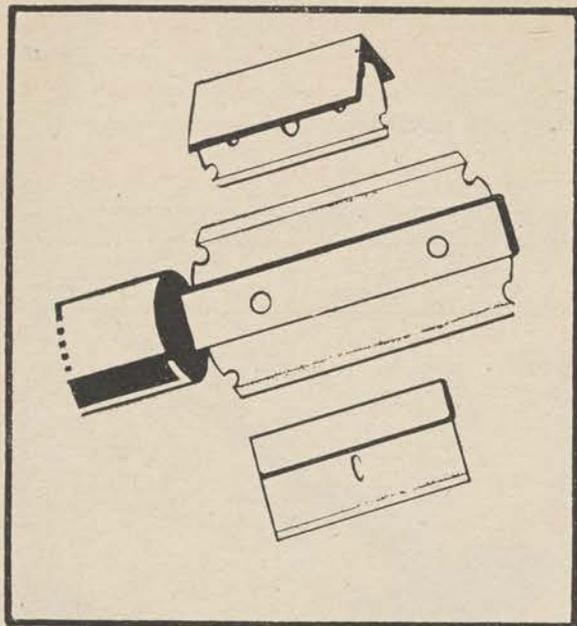

Figure 6.
d. Razor blades make extremely sharp knives and are easily replaced when broken (fig. 6). They should be held in a piece of leather to protect the fingers or inserted in an improvised holder of the type illustrated. This is made by inserting two small strips of metal in a wooden handle and drilling holes